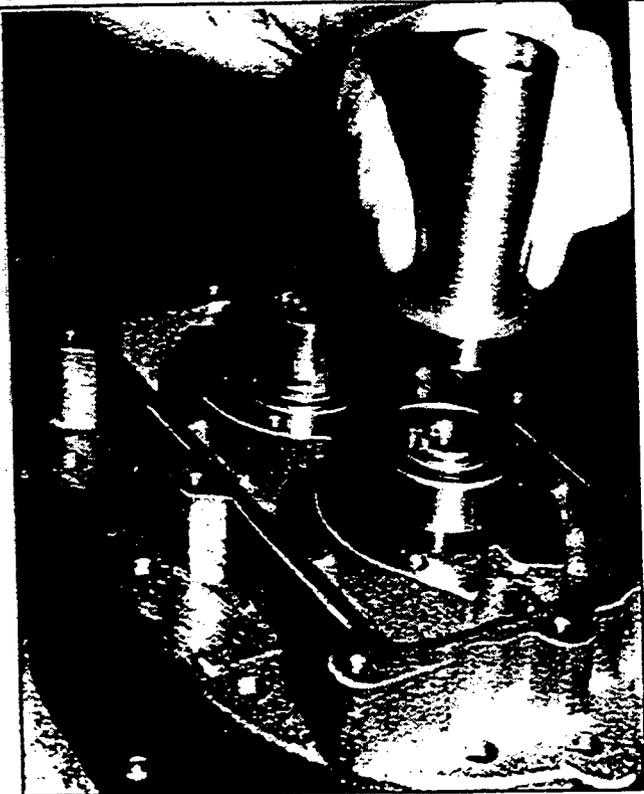

FIGURE A3
Apply a thin coat of lubricant on the rotor shafts and the inner race of the bearings. Tap the bearings (13) into place using a tube with a flanged end that will contact both the inner and outer bearing races. (Refer to Figure A3)